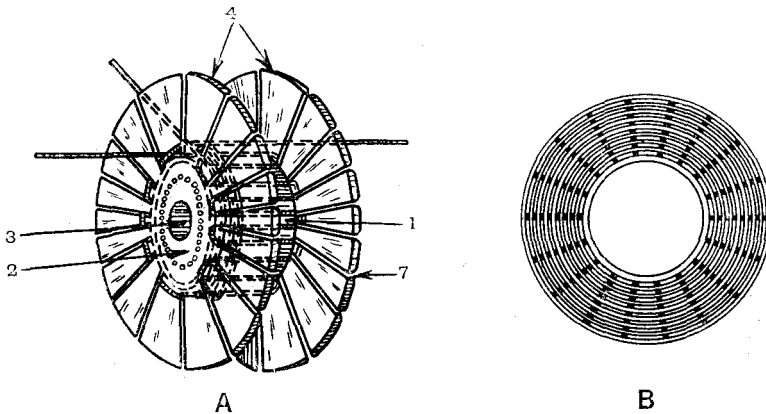

Fig. 1. Explaining the construction of a new type of tuning coil.
The method of making a coil of this type may be followed by referring to Fig. 1, where A is a sketch of a former, and B a finished coil. The former consists of a tube (1) of cardboard fitted over a block (2), which is provided with a hole (3),